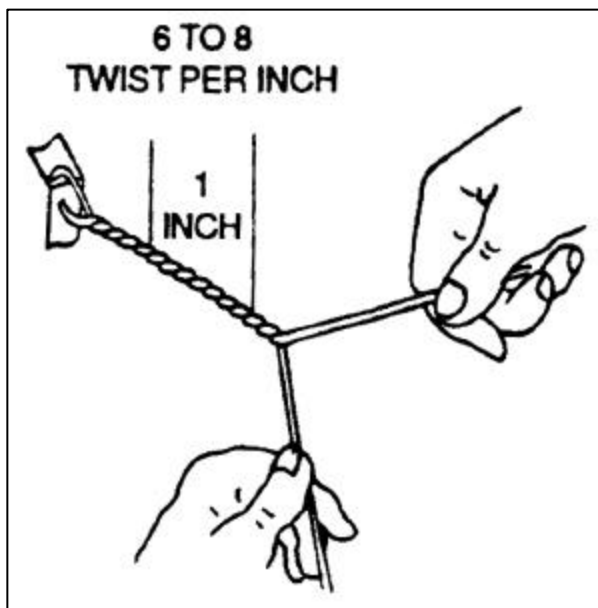

FIGURE 7-3a. Wire twisting by hand.
e. Safety wire must never be over-stressed. Safety wire will break under vibrations if twisted too tightly. Safety wire must be pulled taut when being twisted, and maintain a light tension when secured. (See figure 7-3a.)
(1) Check the units to be safety wired to make sure that they have been correctly torqued, and that the wiring holes are properly aligned to each other. When there are two or more units, it is desirable that the holes in the units be aligned to each other. Never overtorque or loosen to obtain proper alignment of the holes. It should be possible to align the wiring holes when the bolts are torqued within the specified limits. Washers may be used (see paragraph 7-37) to establish proper alignment. However, if it is impossible to obtain a proper alignment of the holes without undertorquing or overtorquing, try another bolt which will permit proper alignment within the specified torque limits.
(2) To prevent mutilation of the twisted section of wire, when using pliers, grasp the wires at the ends. Safety wire must not be nicked, kinked, or mutilated. Never twist the wire ends off with pliers; and, when cutting off